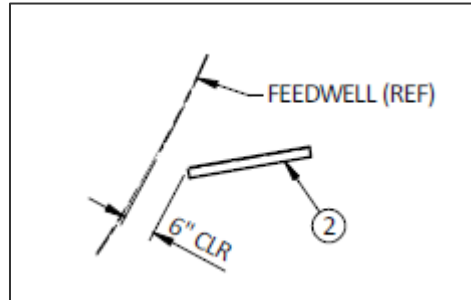

Figure 2.16c
11. Install the skimmer blade referring to the Skimming Erection drawings and Figure 2.16c. Adjust the skimmer blade for level at the elevation specified and for the 6" clearance with the feedwell. If necessary, trim the blade where it extends past the feedwell connection (Figure 2.16c).